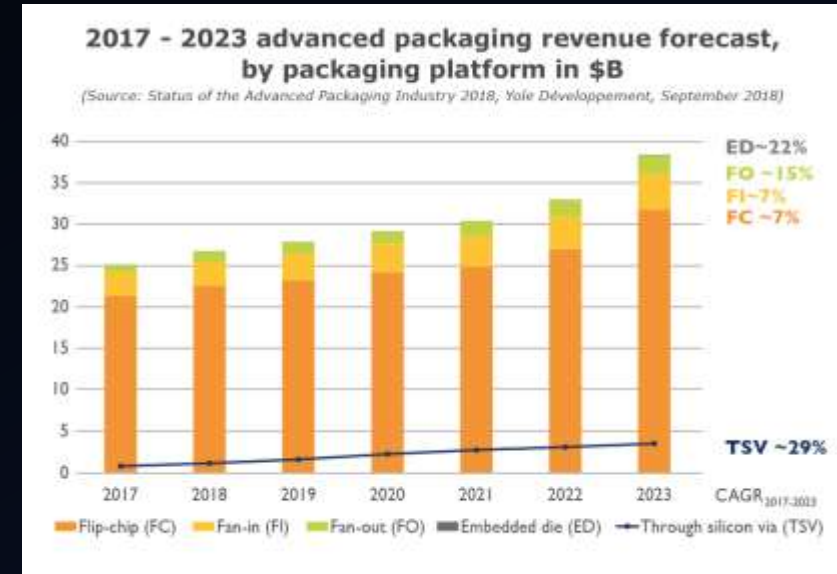

Figure 9.1 Compound Annual Growth Rate (CAGR) of Advanced Packages in the last few years [7]
- In Figure 9.1, the CAGR of TSV packaging has increased a lot more than its other packaging competitors. This shows that there is an increasing larger demand for TSV packaging in the recent years than there are for alternatives. [7]